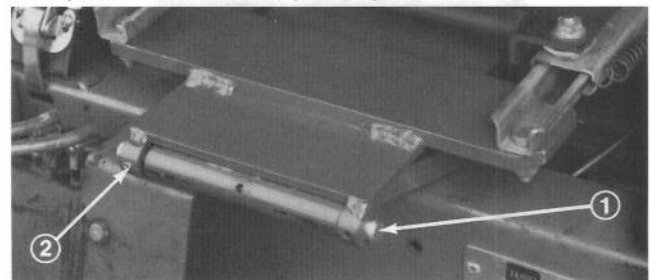

Figure 7
9. Mount seat and seat support to seat pivot bracket with pivot shaft and roll pin (Fig. 7).
2. Insert pin part way into hole in top of seat support bracket on machine (Fig. 7).
11. Mount seat and seat support to seat pivot bracket with pivot shaft and roll pin (Fig. 7).